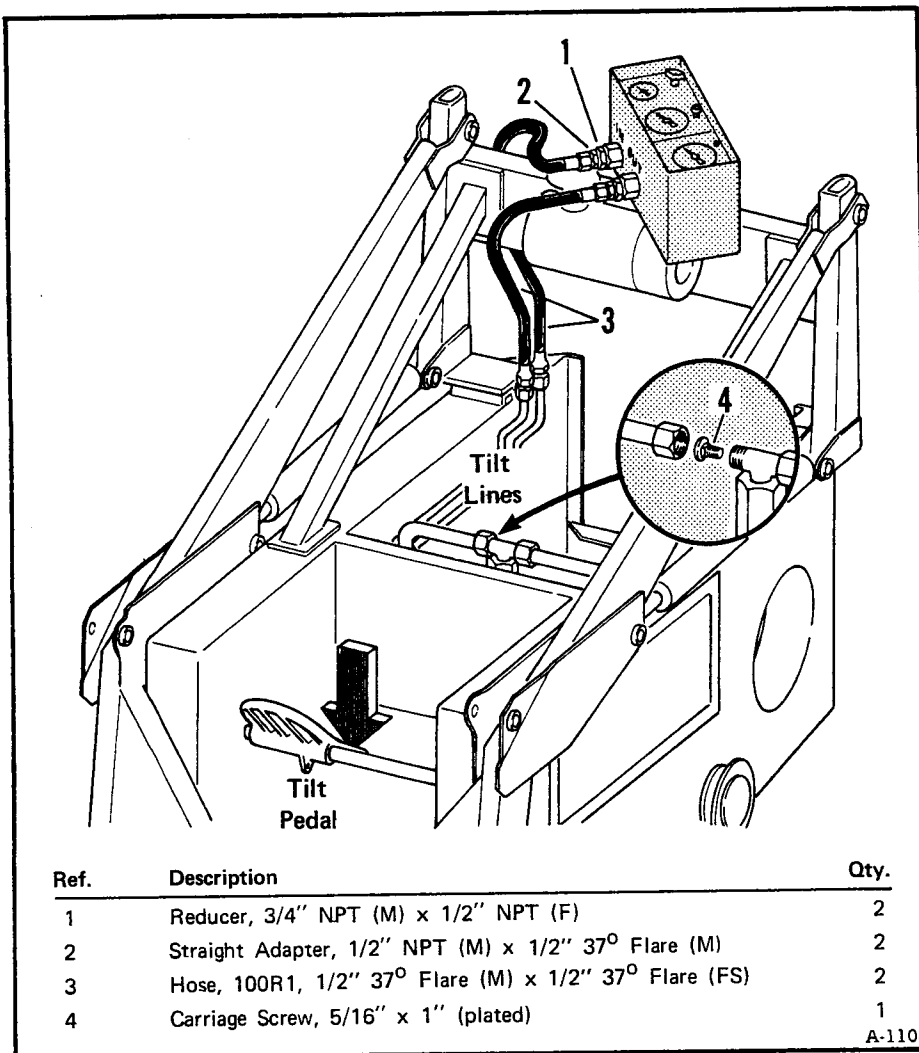

Fig. 116 Checking Condition of Hydraulic Pump
- Remove the hoses from the auxiliary tubelines and connect them to the tilt cylinder tubelines at the rear of the machine. Connect the hose from the inlet port of the tester to the rear tilt tubeline. Connect the hose from the outlet port of the tester to the front tilt tubeline (Figure 116).
- Place a stopper (5/16" x 1" long carriage bolt) between the clutch lubrication manifold tee and the master relief valve tubeline fitting (Figure 116).
- Press the heel of the tilt control pedal down and hold it (Figure 116).